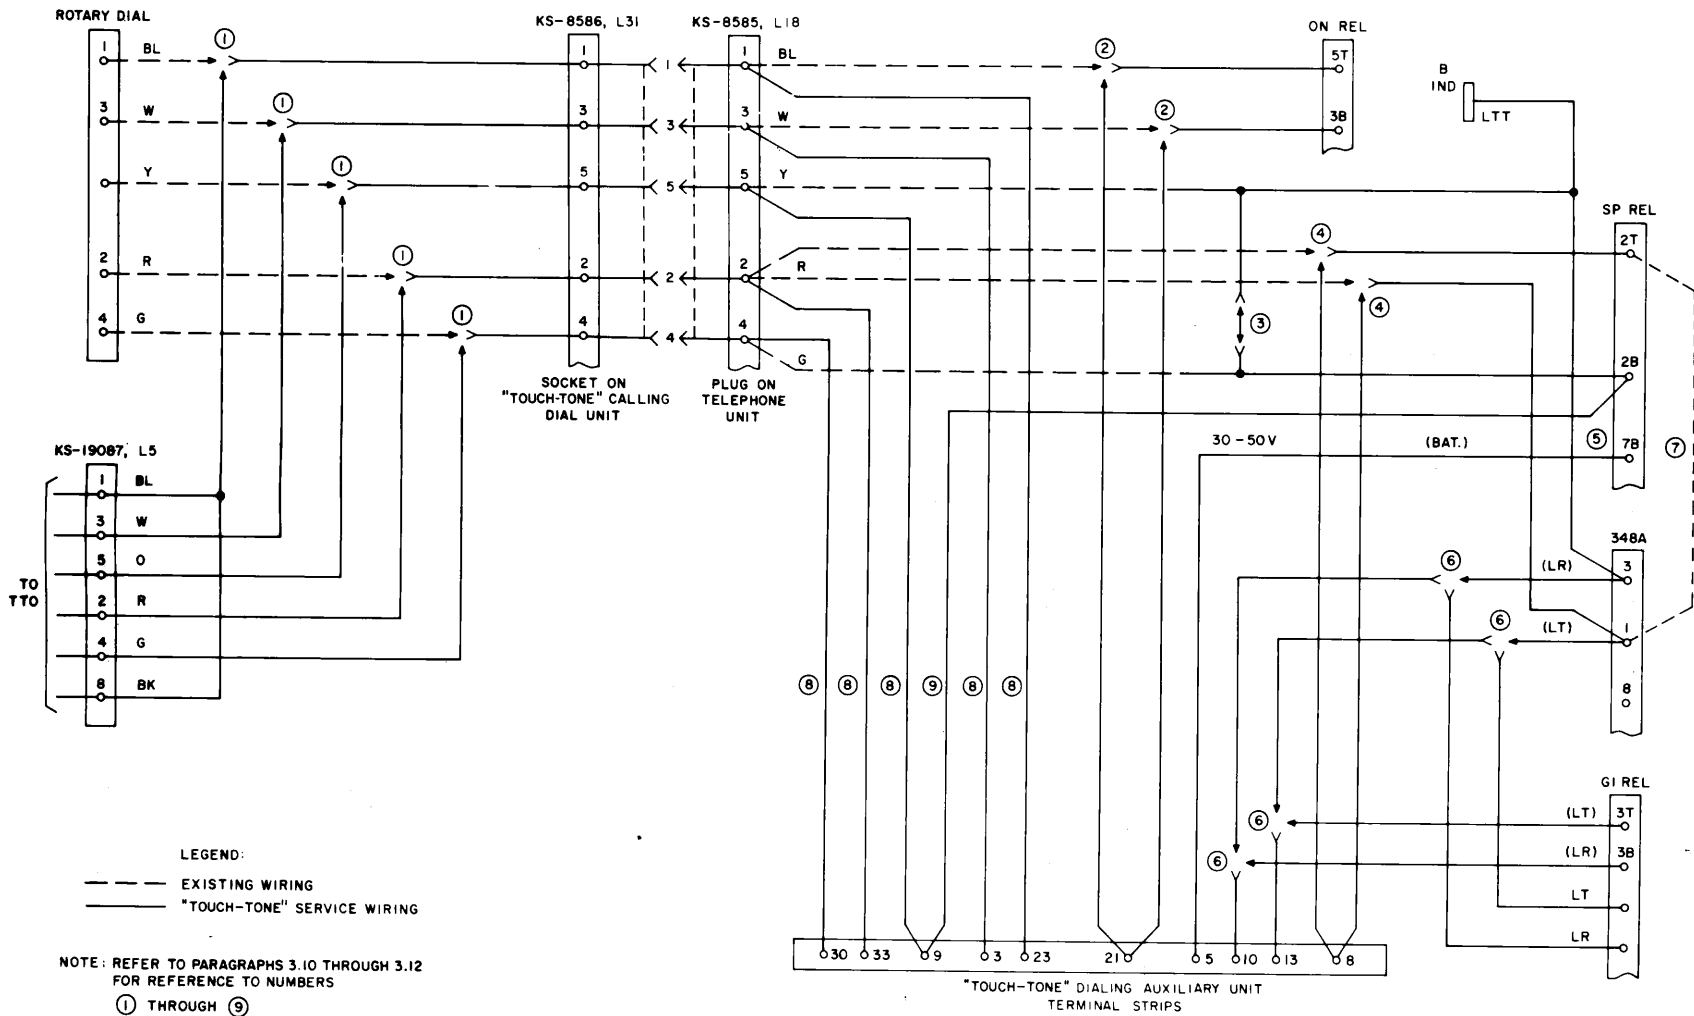

Fig. 21 — TOUCH-TONE Dialing Equipment Connections for 557A PBX
List 31 dial and telephone socket, by splicing and taping the leads from the KS-19087 connector (1 Fig. 21) to the leads of the KS-8586 socket that were previously cut near the terminals of the rotary dial connect block.
(2) Remove wire from terminals 1 and 3 of the KS-8585, List 18 plug on the telephone unit and connect to terminal 21 of the TOUCH-TONE dialing auxiliary unit (2 Fig. 21).
(3) Remove wire from terminals 4 and 5 of the KS-8585, List 18 plug and splice together (3 Fig. 21).
(4) Remove wires from terminal 2 of the KS-8585, List 18 plug and connect to terminal 8 of the TOUCH-TONE dialing auxiliary unit (4 Fig. 21).
(5) Connect battery from terminal 7B on SP relay to terminal 5 of the TOUCH-TONE dialing auxiliary unit, using option E for 30 to 50 volts (5 Fig. 21).
(6) Connect leads from terminals 1 and 3 of the 348A plug to either terminals 10 and 13 on the auxiliary unit or, if the grouping circuit is used, connect leads from terminals 1 and 3 of the 348A plug to terminals 3T and 3B of the G1 relay (6 Fig. 21).
- (7) Remove wire between terminal 1 of the 348A plug and 2T of SP relay (7 Fig. 21).
- (8) Connect new wiring between terminals 1, 3, 5, 2, and 4 of the KS-8585, List 18 plug, to terminals 23, 3, 9, 33, and 30 of the auxiliary unit respectively (8 Fig. 21).
- (9) Connect a lead from terminal 9 of the auxiliary unit to terminal 2B of SP relay (9 Fig. 21).